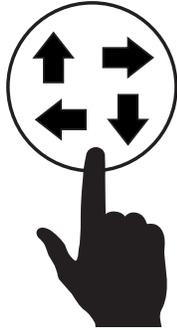

Figure 53. Mode Change Button
1. On the touch display, press the **Mode Change button** (Figure 53).